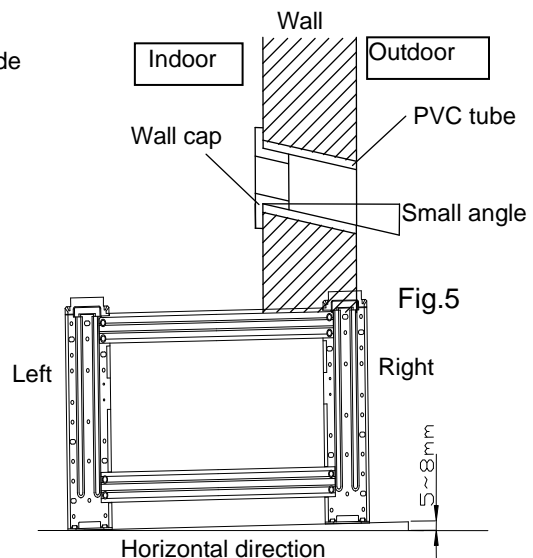

Fig.5
- Cut PVC tubes at a slight angle in the length shorter than wall thickness and inset it into the hole.(Fig.5)